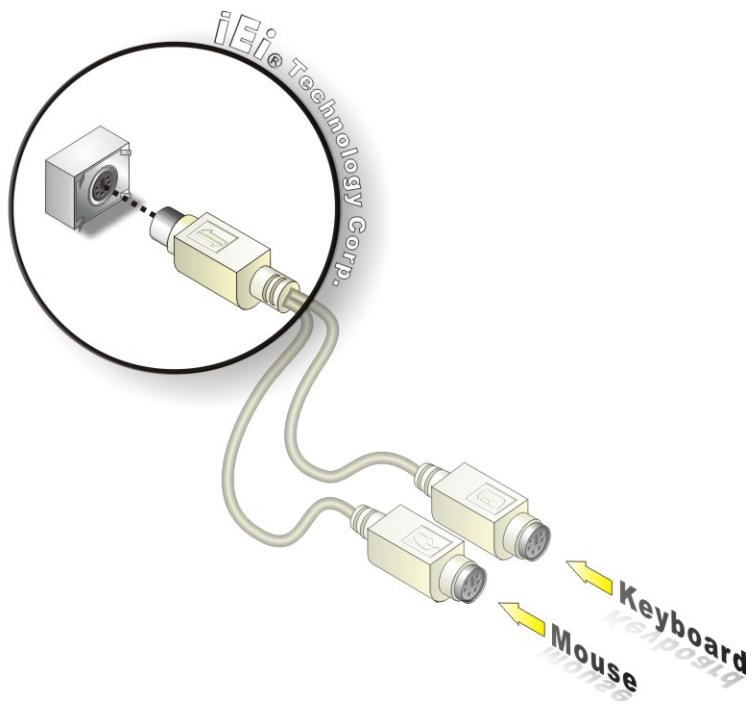

Figure 5-14: PS/2 Keyboard/Mouse Connector
Step 2: **Insert the keyboard/mouse connector.** Insert the PS/2 connector on the end of the PS/2 y-cable into the external PS/2 connector. See Figure 5-14.